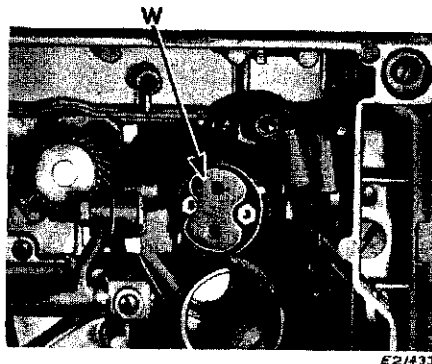

Fig. 10. Two Pin Terminal Removed For Hook Shaft Replacement
5. Unscrew and move two pin terminal W, Fig. 10 out of way so that it will not interfere with replacement of new rotating hook shaft